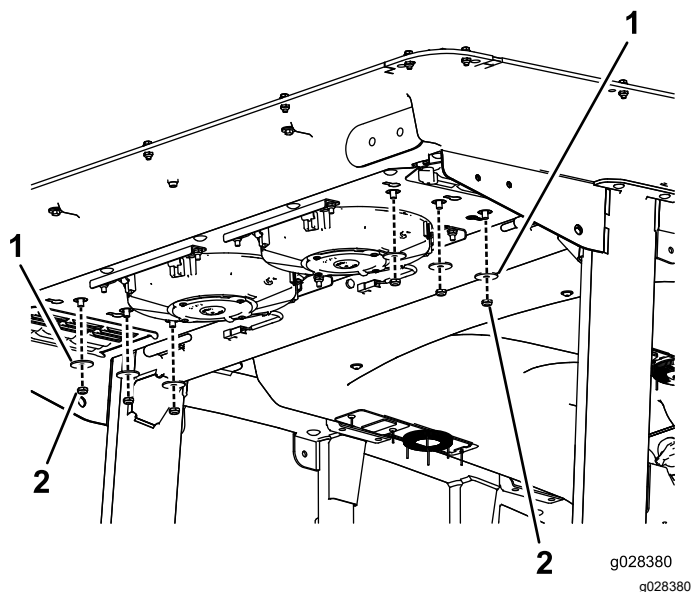

Figure 105
- 2. Remove the 6 nuts and washers from the bottom of the rear of the cab (Figure 105).